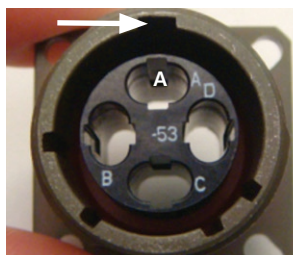

Figure 67: Front view with connector keyway
- a. On the front side of the connector identify the connector main key keyway (Figure 67).